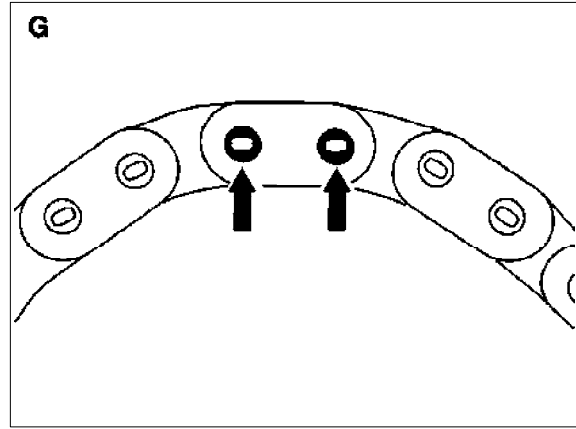

Figure 10
25. Carefully inspect riveted connecting link pins (arrows Figure 10). If necessary re-rivet pins by repeating step 24 again.